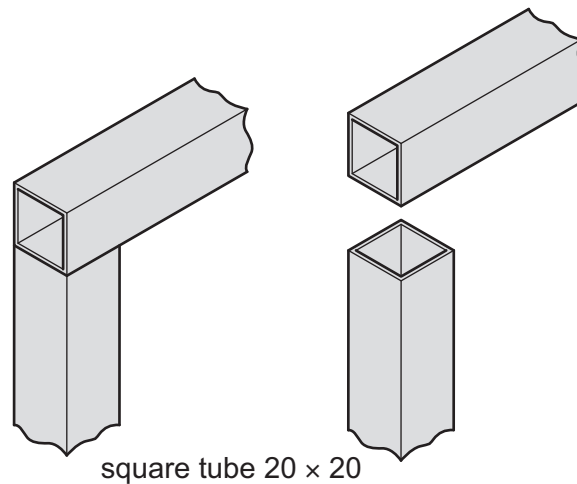

Fig. 13.2
- (c) Fig. 13.2 shows two lengths of mild steel tube that will be joined at the corner of one end frame.